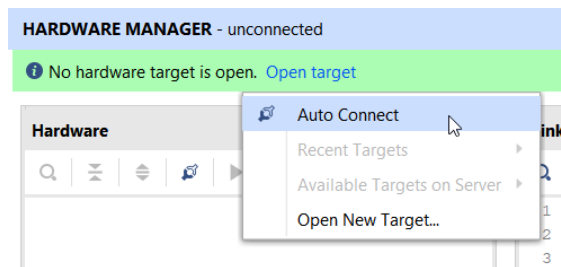

Figure C.9: Open target button
7. Click *Open target* in the green bar on top of the workspace pane (See Fig. C.9) and choose *Auto Connect*. This will establish a connection between Vivado and the FPGA on the Basys3 board.
8. Click *Program device* in the green bar to configure the FPGA (See Fig. C.9).